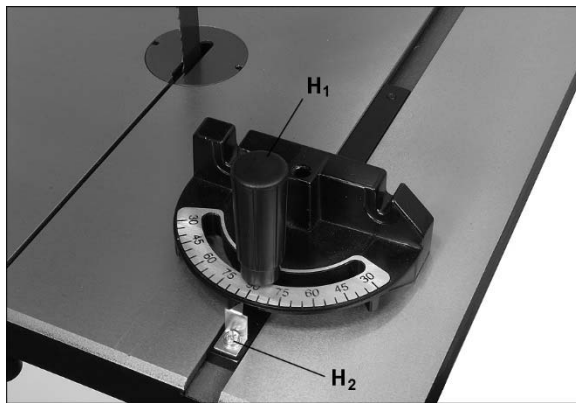

Figure 5-9
Refer to Figure 5-9.
3. If miter gauge is not square to blade, loosen lock knob (H1, Figure 5-9) and adjust to proper setting. Tighten lock knob.